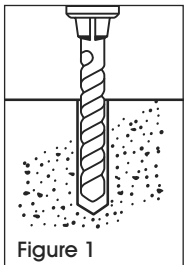

Figure 1
1. Drill hole the same diameter as anchor being used to any depth exceeding minimum embedment. Clean hole. (See Figure 1)